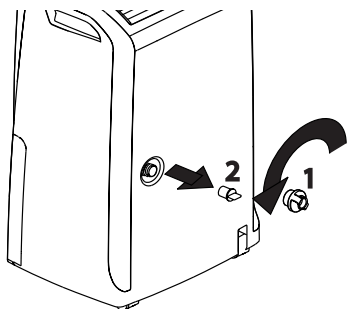

fig. 2
- 1) Remove the continuous drain cap **1** by turning it counterclockwise then remove the rubber stopper **2** from the spout (fig. 2).
Note: Some leakages from the spout could happen when removing the rubber stopper **2** (fig. 2).